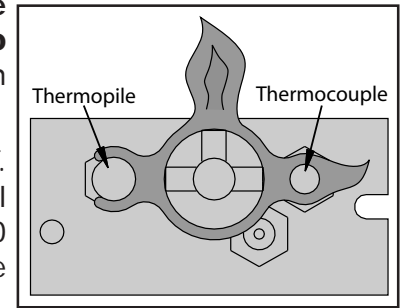

Figure 4. Pilot Flame
1. Turn off the gas to the fireplace. **If not recently done, remove the glass and let the unit air out for at least five (5) minutes to clear out any gas.** Turn on gas to the heater. Leak test all joints with soapy water. **NEVER USE OPEN FLAME FOR LEAK TESTING.**
2. Start the pilot by pressing the gas control knob and turning it to PILOT. While holding the gas control knob in, press the piezo ignitor several times until the pilot light starts. Hold the gas control knob in for 30 seconds. Check that the pilot has fully engulfed the thermocouple assembly (see Figure 4).
Periodically do a visual check of the pilot flames. The outside flames should encompass the thermocouple and thermopile (see figure 4) and the middle should burn over the burner ports. Also check that the burner is operating correctly, refer to Venturi Adjustment section.